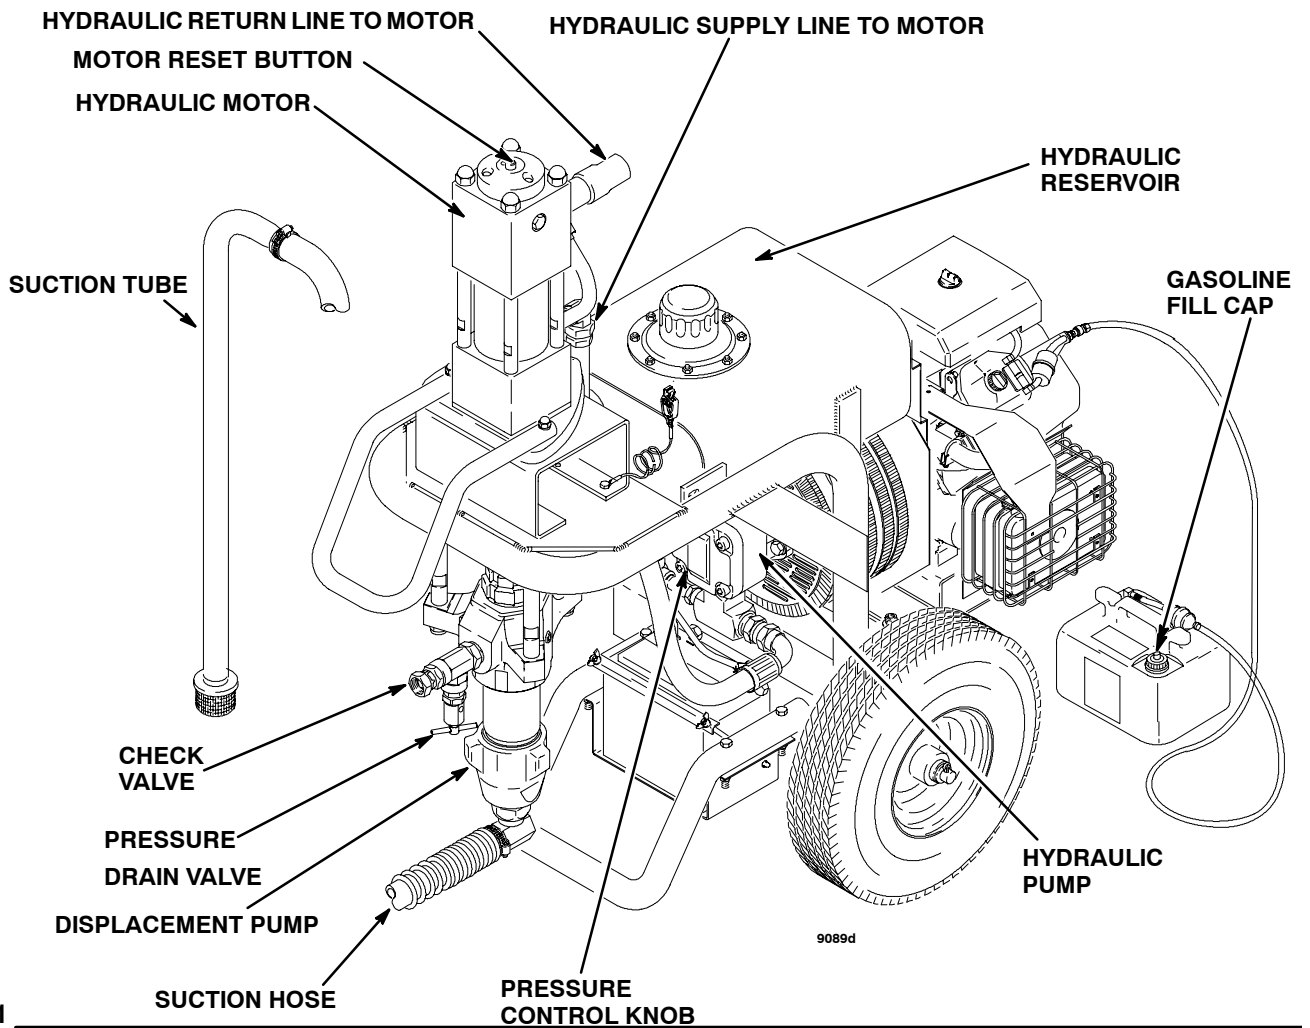

Fig 1
- Remove the plastic cap plug from the outlet tee and screw an accessory, conductive or grounded spray hose onto the 1/4 npsm(f) outlet nipple. See Fig 1.
- Connect a small diameter, 3 ft (0.9 m) whip hose between the main hose and a spray gun, if desired, for more flexible gun movement. See Fig 1.